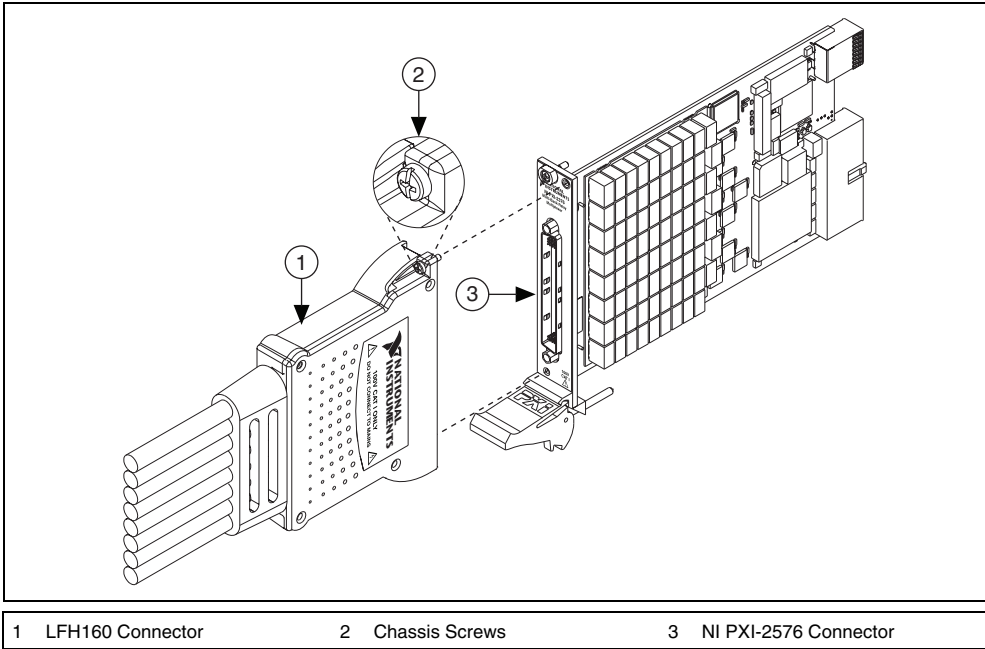

Figure 2. Connecting the LFH160 Cable to the NI PXI-2576
1. Connect the LFH160 connector to the NI PXI-2576 connector on the switch module as shown in Figure 2.